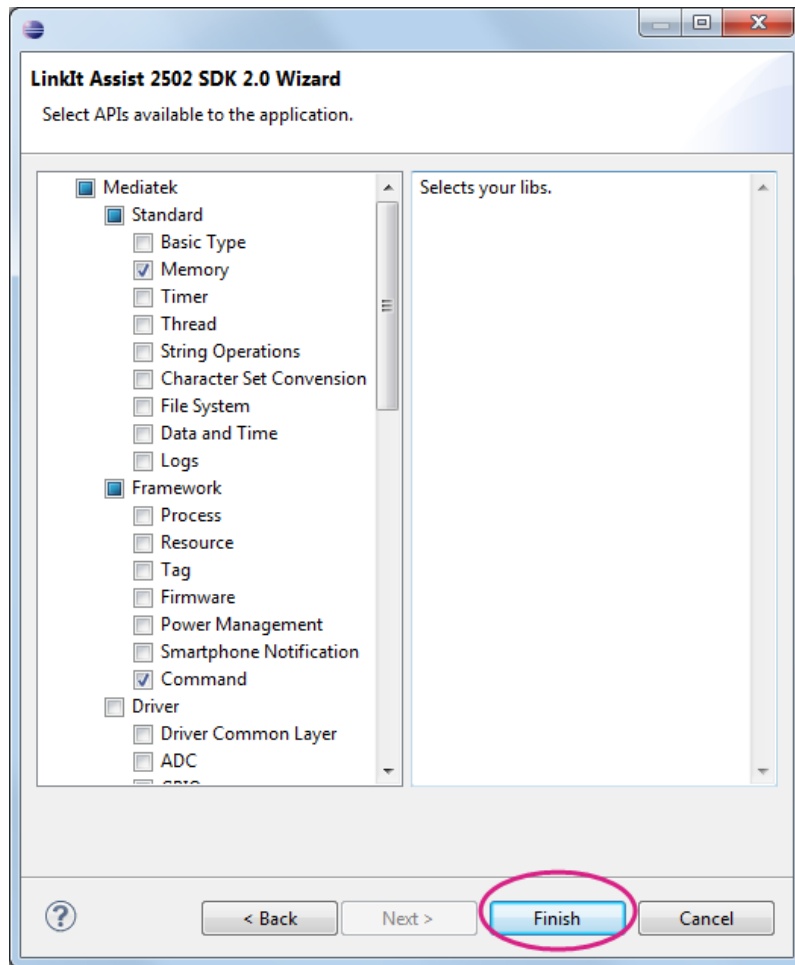

Figure 19 LinkIt Assist 2502 libraries
- 4) The library selection page displays, as shown in Figure 19. The library selection page enables you to include library header files into your project. You can always manually add header files later using the #include command. You can proceed with default libraries for the first project and click **Finish**.